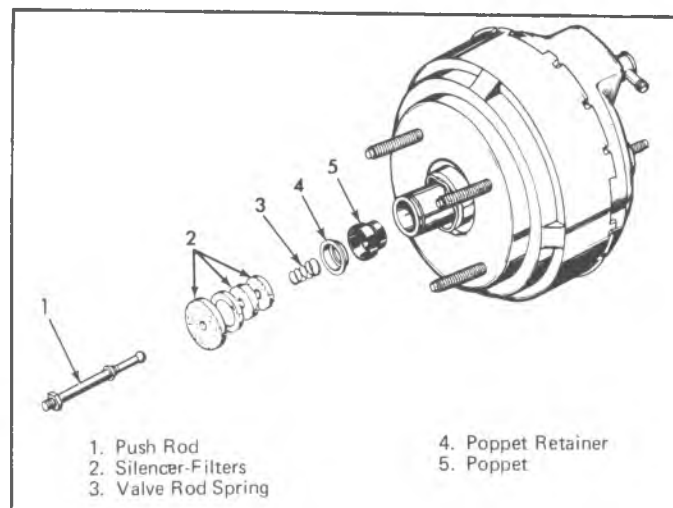

Fig. 4D--Removing Valve Operating Rod, Retainer, Filters and Poppet
12. Remove poppet valve spring, poppet retainer and valve poppet from hub of rear diaphragm plate (fig. 4D).